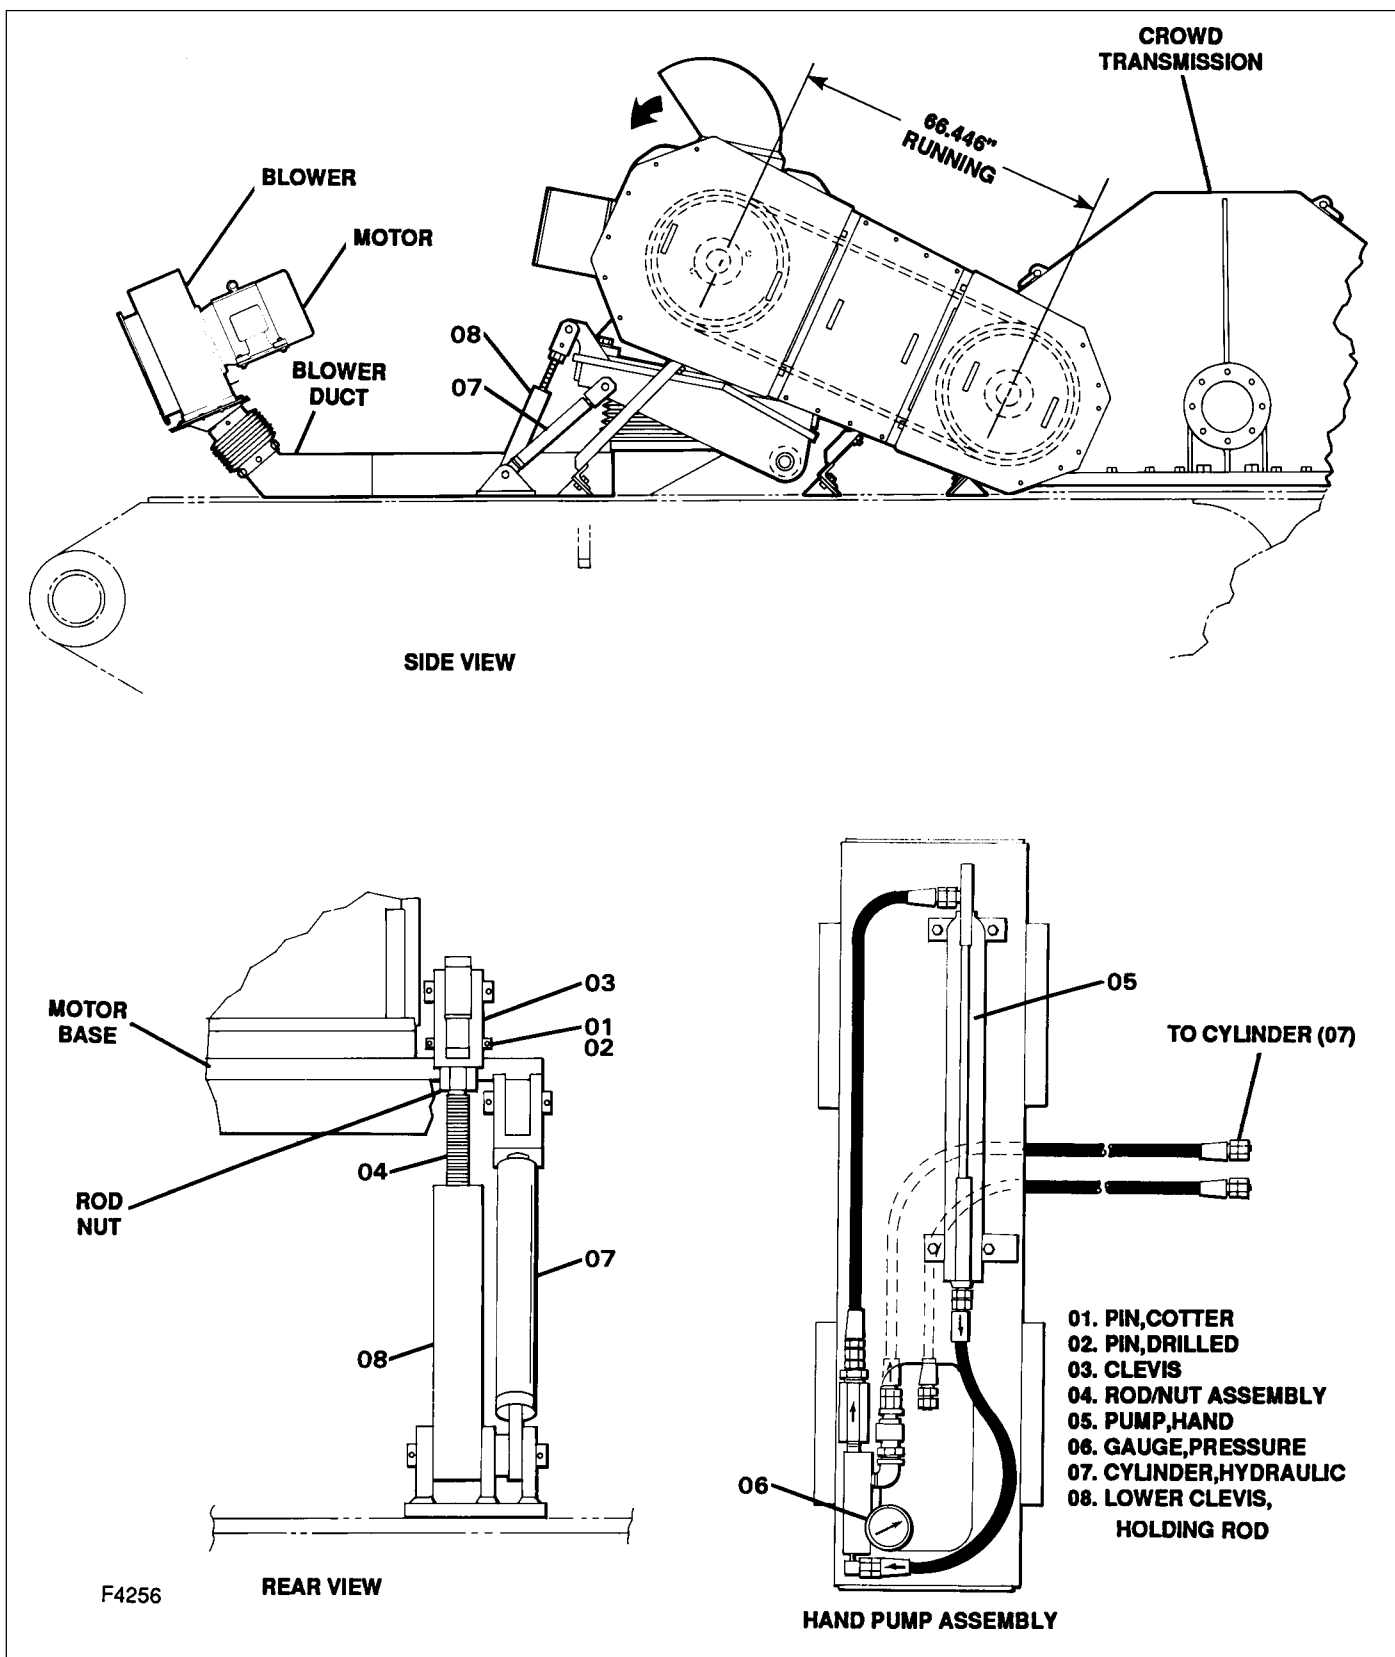

Figure 6-6. Crowd Belt Tensioning Assembly
- A. Refer to Figure 6-6 and remove the cotter pin (01) and 3/4 inch diameter pin (02) from the upper clevis (03) of the holding rod assembly (04).
1. If the pump is not already set up for crowd belt adjustment as illustrated in Figure 6-6, make the necessary connections to set it up that way.
2. Refer to Figure 6-6 and remove the cotter pin (01) and 3/4 inch diameter pin (02) from the upper clevis of the holding rod assembly.